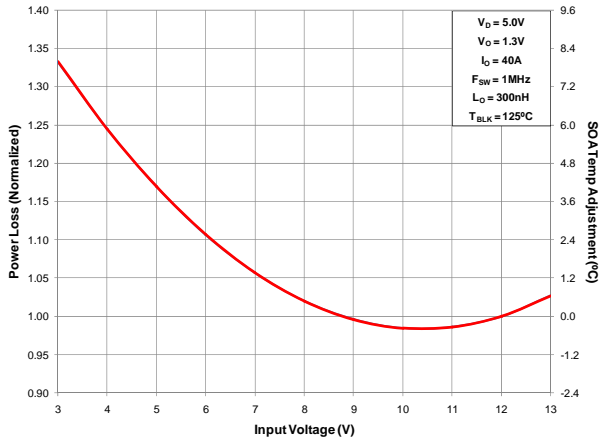

Figure 3 Normalized Power Loss vs. Input Voltage
| (Figure 3) | Normalized power loss for input voltage \approx 0.98 |
- (Figure 3) SOA temperature adjustment for input voltage $\approx -0.5^{\circ}\text{C}$